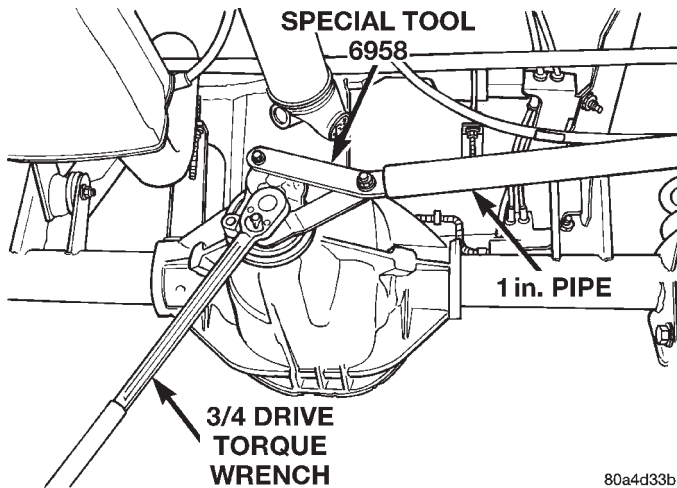

Fig. 46 Tightening Pinion Nut
(14) Using yoke holder 6958 and a torque wrench set at 474 N·m (350 ft. lbs.), crush collapsible spacer until bearing end play is taken up (Fig. 46).